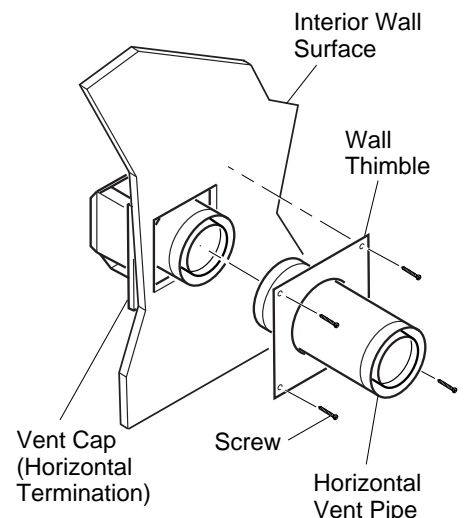

Figure 17 - Connecting Vent Cap with Horizontal Vent Pipe
5. Slide the wall thimble over the vent pipe before connecting the horizontal run to the vent cap (see Figure 17).
7. Slide the wall thimble against the interior wall surface and attach with screws provided (see Figure 17).